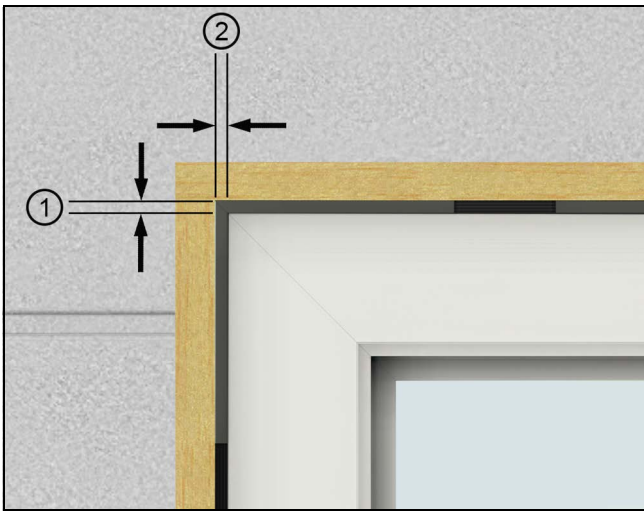

Figure 5
5. Masonry Openings (MO) for flanged windows should be 1” greater than outside frame (flange) measurement. The Rough Opening (RO), with or without a wood buck, should result in a 1/2” overall shim space, 1/4” per side. Size the Masonry Opening (MO) accordingly, based on the wood buck specifications. When framing a rough opening, ensure the sill plate is level and the opening is square, straight, and plumb. See Figure 5.